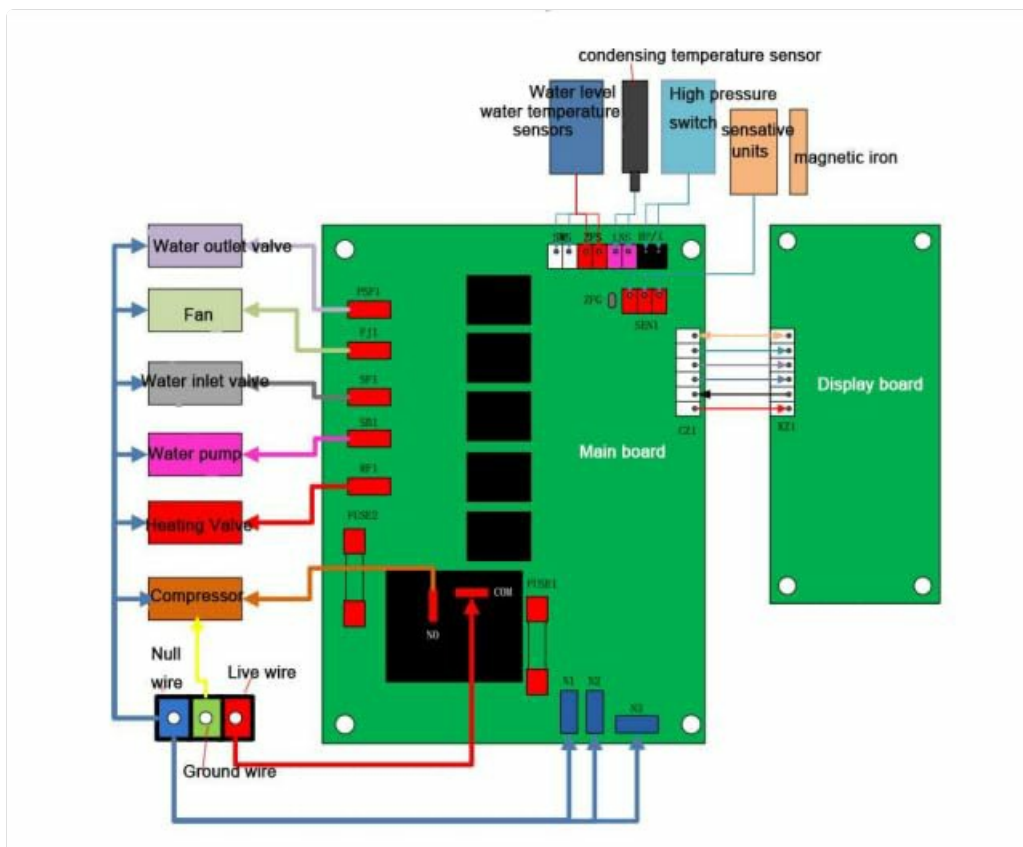

Figure 3.1: Wiring Diagram for the Ice Maker Controller Kit. Please refer to this diagram when replacing the board.
2. Carefully connect each sensor to its corresponding port on the main control board. Refer to the wiring diagram (Figure 3.1) for precise connection points.
- **Incorrect Connections:** Double-check all sensor and display board connections against the provided wiring diagram (Figure 3.1). Ensure no wires are loose or incorrectly plugged in. Note that some original boards may have different terminal configurations; verify compatibility before installation.